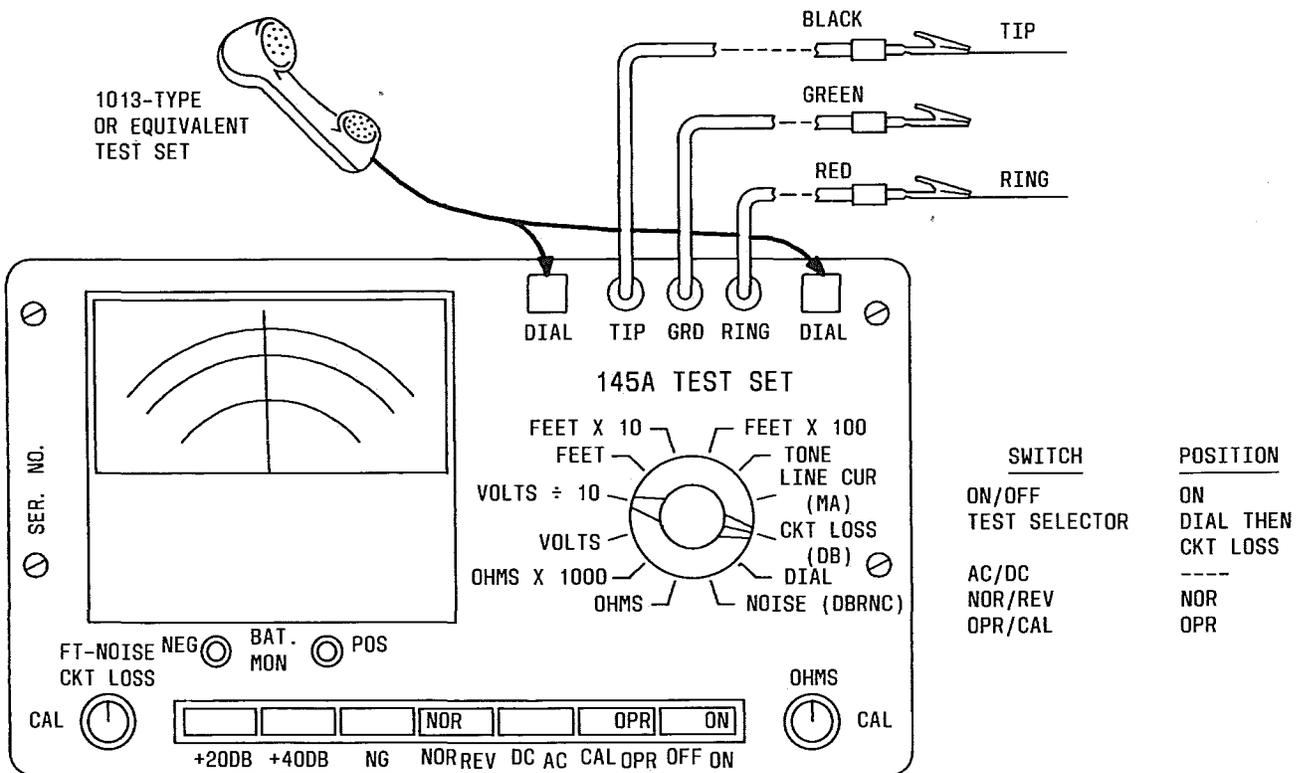

Fig. 12—Circuit Loss Measurement
4.08 Circuit Loss Test (Fig. 12): This test measures the loop circuit loss in decibels (dB) at the subscriber end, using the 1000 Hz milliwatt (0 dBm) tone from the central office (CO). The test set will read accurately on either 600- or 900-ohm circuits. The following steps must be used when making this test:
- (b) Turn test selector knob to CKT LOSS (DB) position.